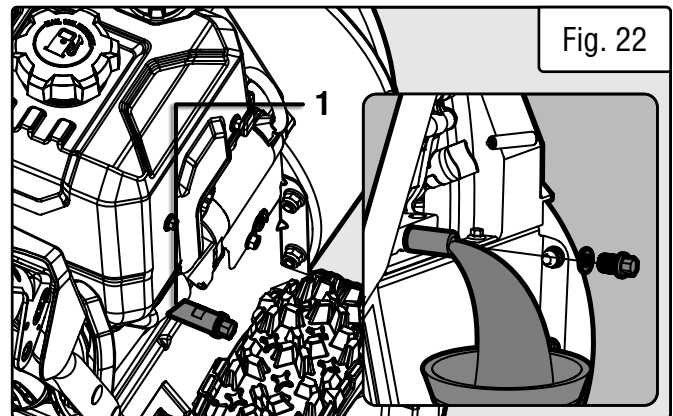

Fig. 22
3. Prepare an approved oil-storage container underneath the oil drain bolt (Fig. 22).